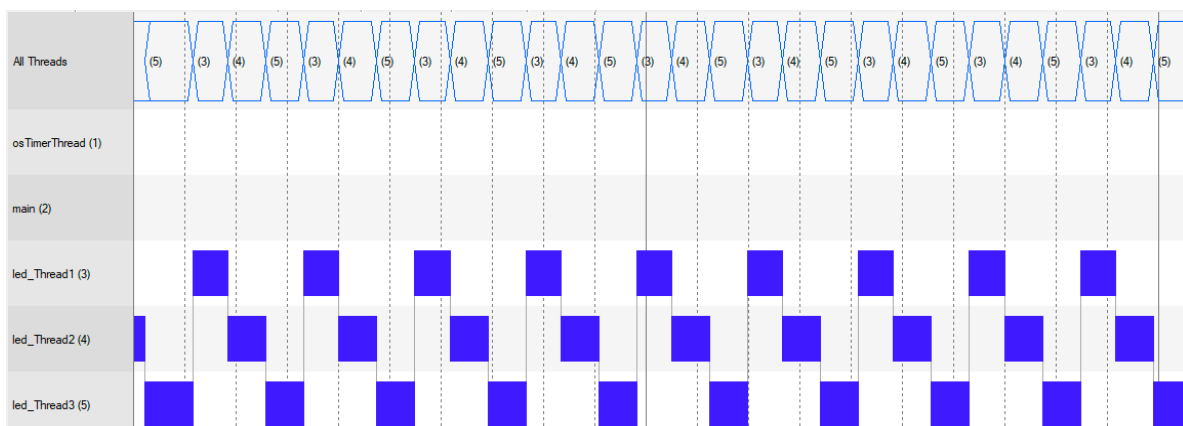

Fig2: “virtual\_demo” System and Thread Viewer example
16) Simulate project. Analyze the functionality of the code. See (Fig 2), (Fig 3) and (Fig 4).